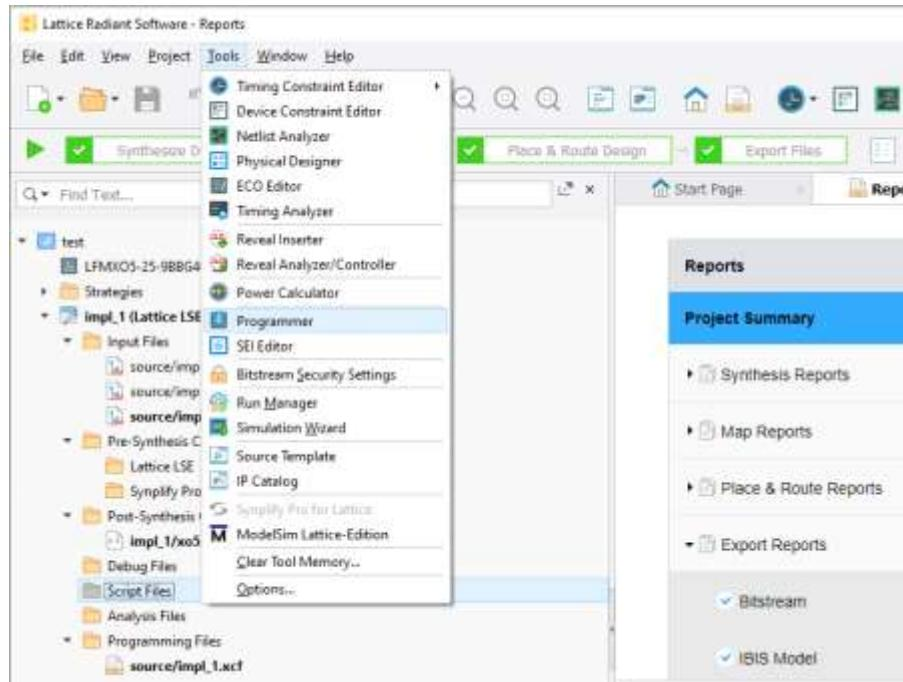

Figure 11.1. Radiant Software – Radiant Programmer
2. In Radiant Software, click **Tools > Programmer**, as shown in Figure 11.1.